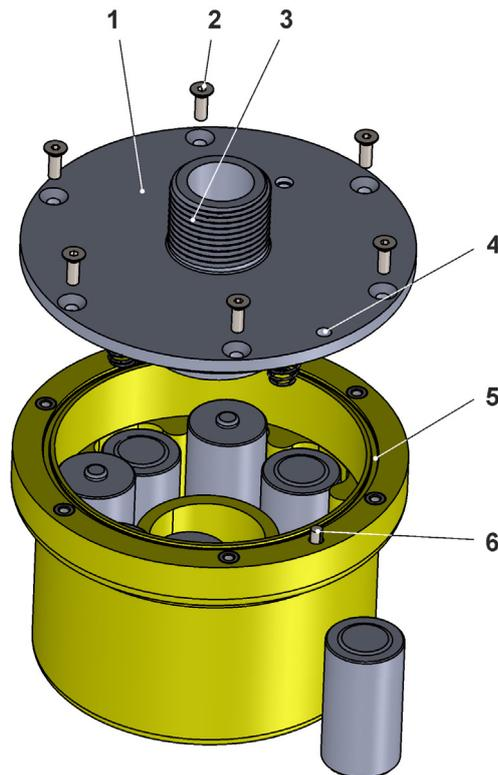

Fig. 23-1 Open / close enclosure
- The countersunk screws Torx TX20 (6x) (Fig. 23-1 Pos. 2) are freely accessible.
2. Unscrew the countersunk Torx TX20 (6x) screws (Fig. 23-1 Pos. 2) **crosswise step by step** (high counter-pressure from the inside due to the batteries/springs, therefore **hold** with your hand **before** removing the last two countersunk screws!) on the housing/battery compartment cover (Fig. 23-1 Pos. 1).
1. Check the enclosure gaskets (Fig. 23-1 Pos. 5) and clean if necessary. Before closing the enclosure/battery compartment cover, always make absolutely sure that the gasket is clean and undamaged. Therefore:
2. Fit the enclosure/battery compartment cover (Fig. 23-1 Pos. 1) (note the alignment bolt (Fig. 23-1 Pos. 6) and corresponding hole (Fig. 23-1 Pos. 4)) and screw it on **crosswise step by step** using the countersunk Torx TX20 (6x) screws (Fig. 23-1 Pos. 2) (high counter-pressure from the inside due to the batteries/springs).